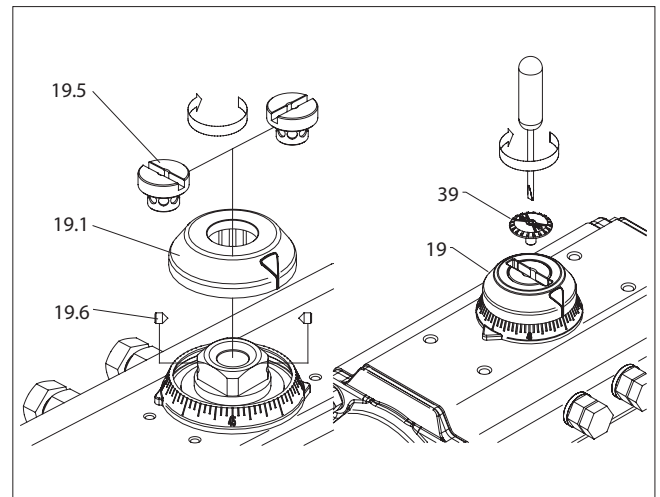
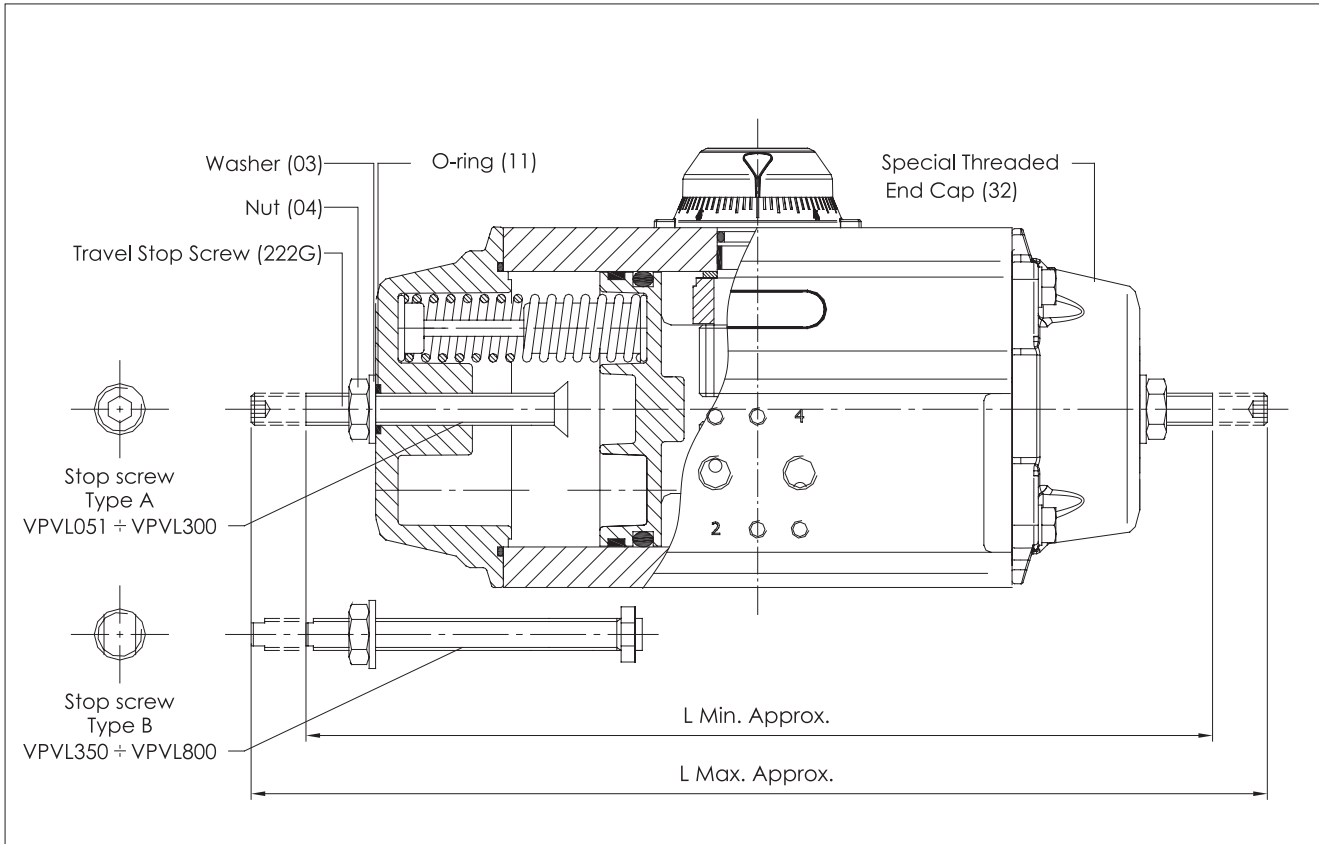

Figure 18.
Figure 19.
- B. If the valve is not in the correct clockwise position, turn the right stop adjustment screw (2) IN to reduce actuator travel, or OUT to increase actuator travel.
- C. When the correct clockwise position is obtained, hold the adjusting screw (2) stationary while tightening the lock nut (4).
- E. If the valve is not in the correct counter-clockwise position, turn the left stop adjustment screw (2) IN to reduce actuator travel, or OUT to increase actuator travel.
- F. When the correct counter-clockwise position is obtained, hold the adjusting screw (2) stationary while tightening the lock nut (4).
6. Position Indicator (19, 39) Assembly. (Figure 18):
- A. Fit position indicator (19) on the shaft (60), verifying that it indicates the correct actuator position.
- B. Tighten cap screw (39) to secure the position indicator.
7. Setting 100% Adjustable Stop (If applicable). (Figure 19):